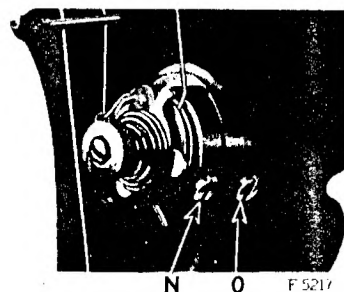

Fig. 16. Adjustments of Thread Controller
For more controller action on the thread, loosen the stop screw (N, Fig. 16) at the right of the tension and set the stop lower, and for less action, set the stop higher.
To strengthen the action of the controller spring on the thread, loosen the tension stud screw (O, Fig. 16) at the right of the stop screw and turn the tension stud slightly to the left with a screwdriver, or to lighten its action on the thread, turn the tension stud to the right and tighten the tension stud screw (O).